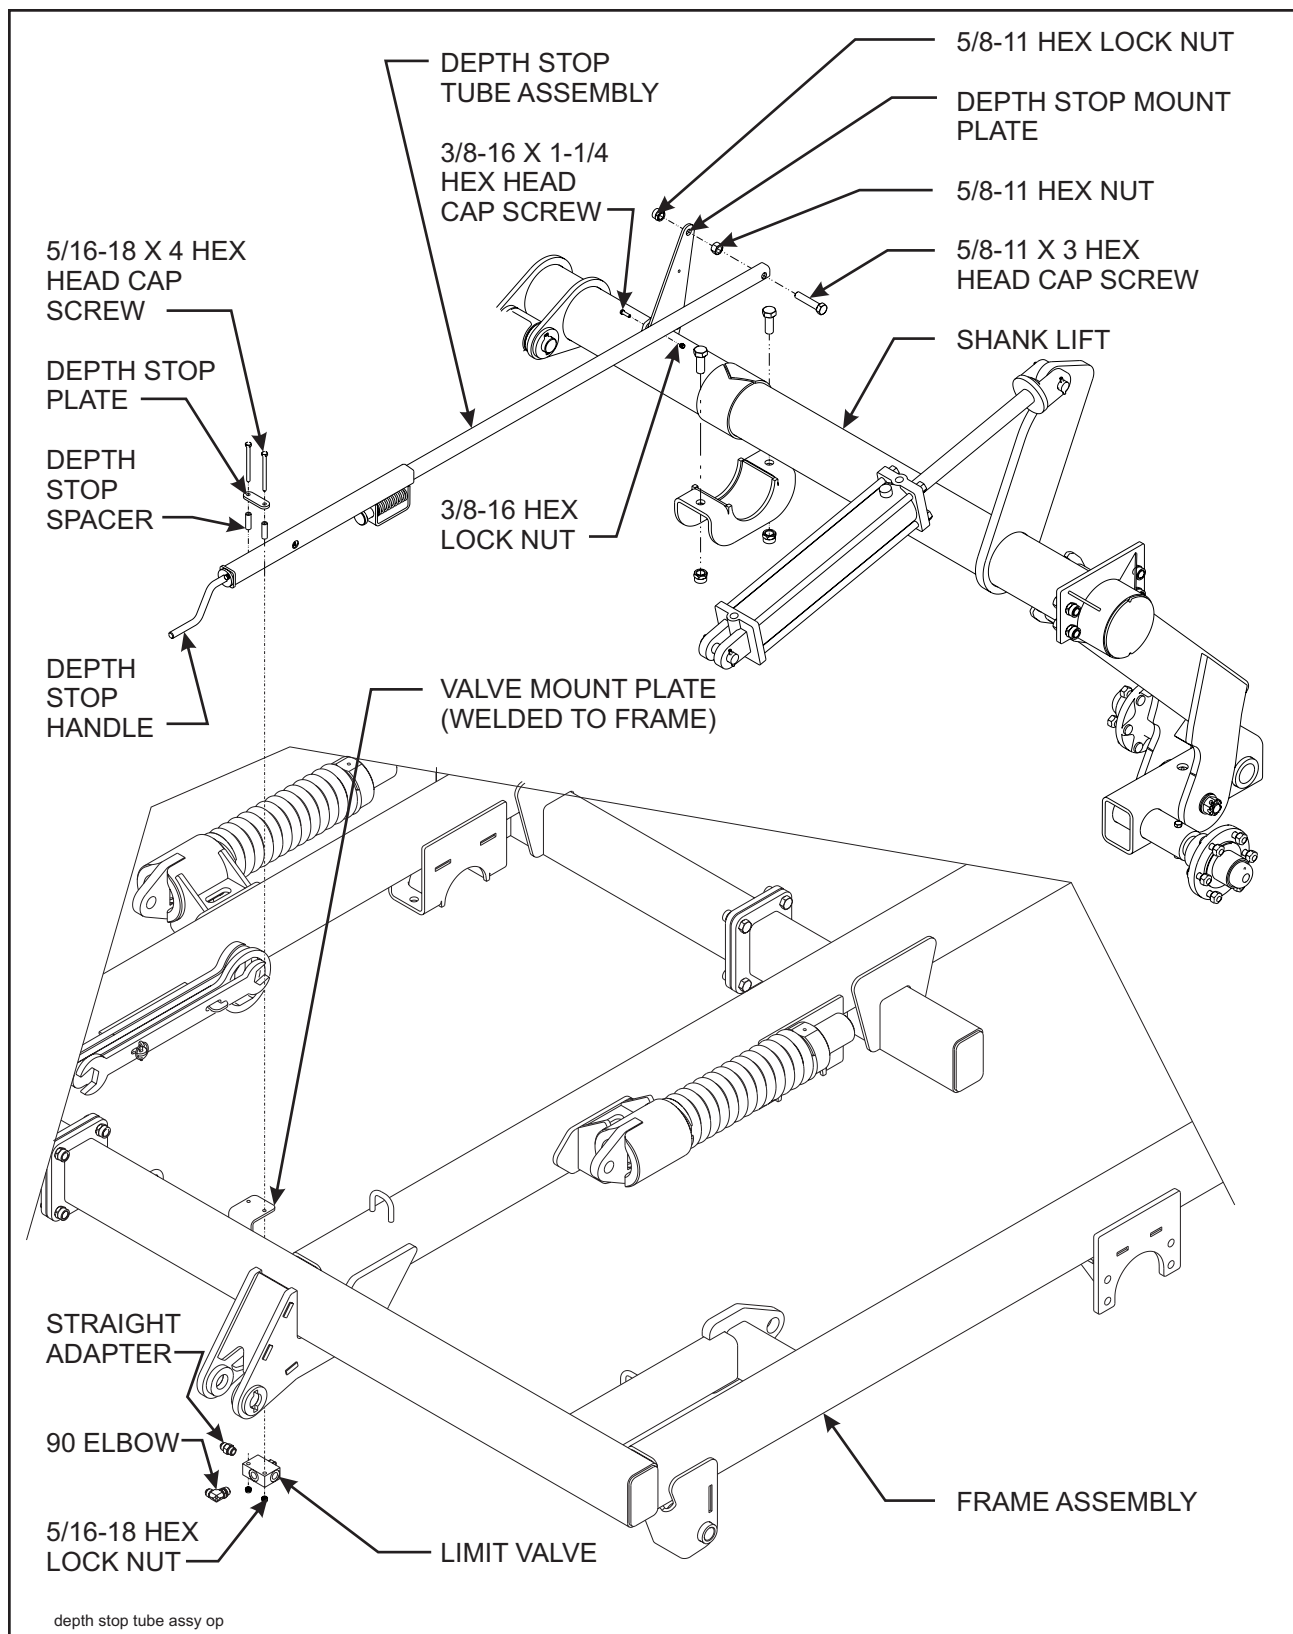

Figure 3-4 Depth Stop Assembly Installation
- 3-5.2** Lay the depth stop tube assembly on top of the center frame. Insert a 5/8-11 x 3 hex head cap screw in the rear hole of the tube assembly from the left side (**See Figure 3-4**). Install a 5/8-11 hex nut on the screw. Do not over tighten, as the depth stop must pivot on this screw. Insert the screw through the depth stop mounting plate on the center lift and secure with a 5/8-11 hex lock nut.